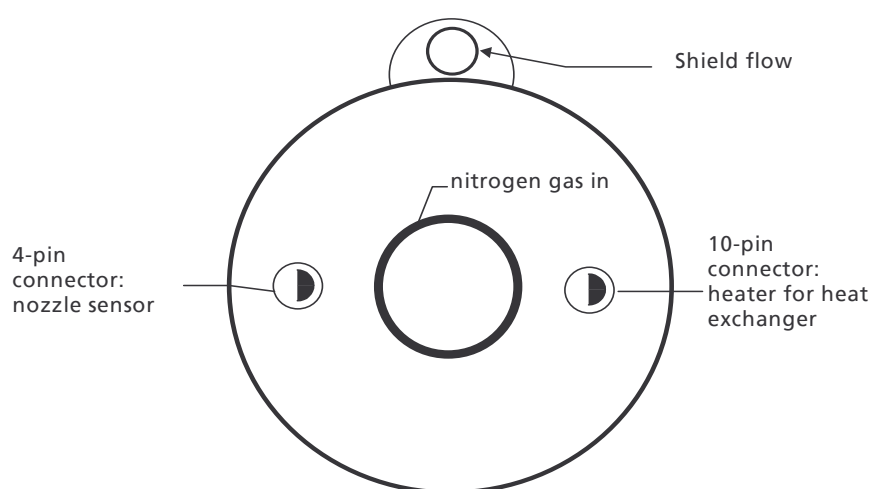

Figure 8 Schematic of cold head top flange
- c) Fit the round connectors on the cables (4 pin and 10 pin) to the sockets on the cold head, matching the colours (Figure 8). These connectors also have red dots - line up the red dot on the plug with the red dot on the socket.